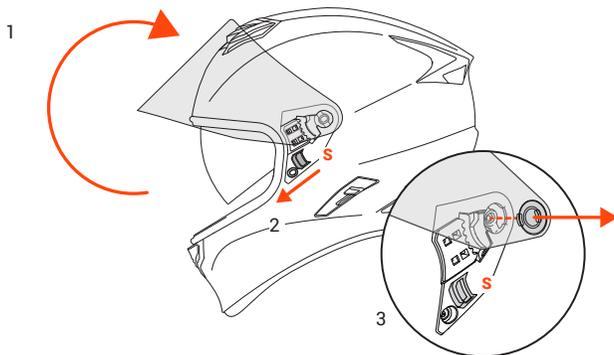

FIGURE 13
**Removing – Figure 13**
- 2) Slide the lever (S) and Keep it in tension (S)